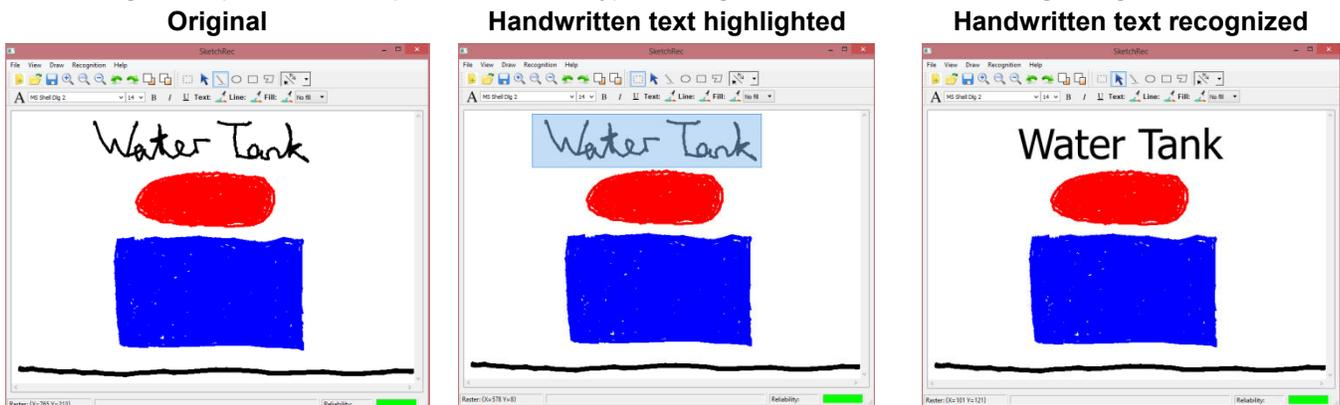

Figure 17: Simple illustration of the cursive handwriting recognition.
3. Highlight the text you want to recognize using the 'Area Selection' icon (see Figure 17).
Figure 17 provides a simple illustration of typical usage of the cursive handwriting recognition.